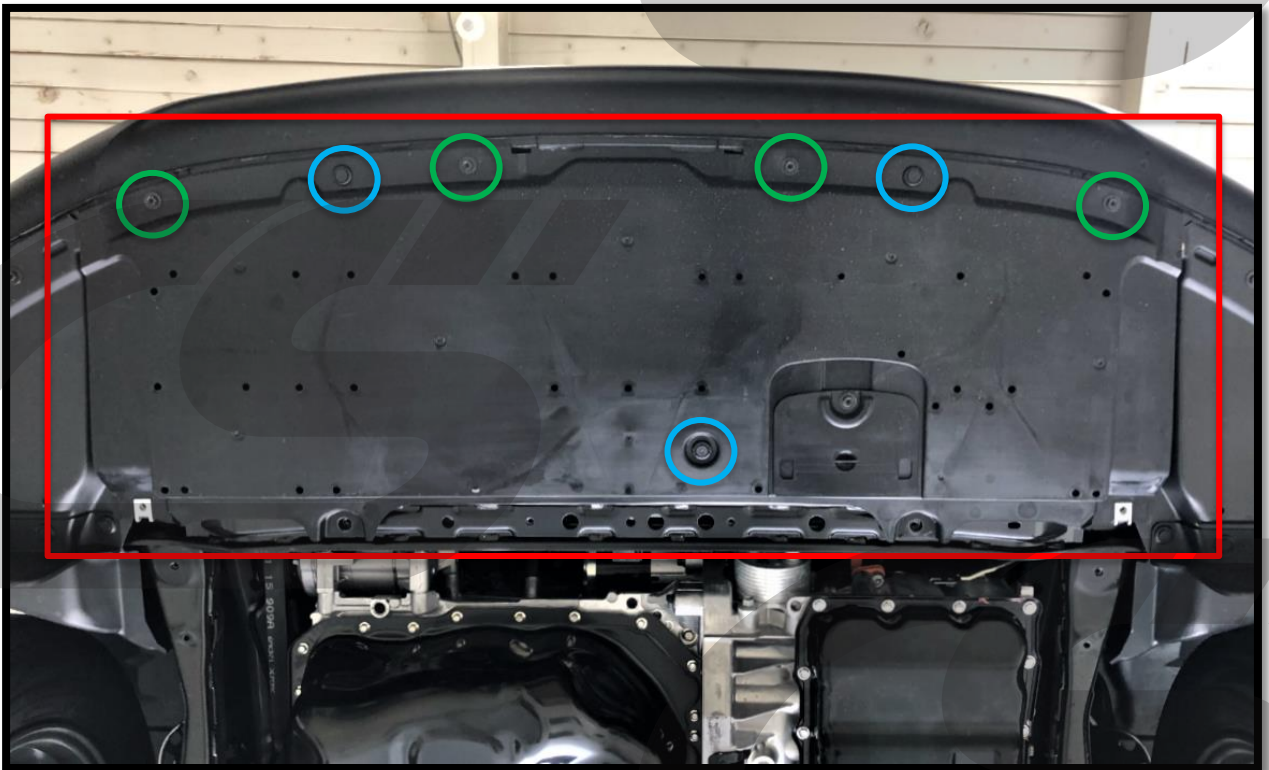

Figure 1b
- e) Locate the front section of the OEM splash shield. Shown with red square in **Figure 1b**.
- f) Remove three (3) push clips from the OEM splash shield using a flat head screwdriver or push clip removal tool. Shown circled in blue in **Figure 1b**.
- g) Remove four (4) 8mm bolts from the OEM splash shield using an 8mm socket and ratchet. Shown circled in green in **Figure 1b**. Then remove front section of the OEM splash shield. Do not discard this hardware, you will be reusing some of it later.